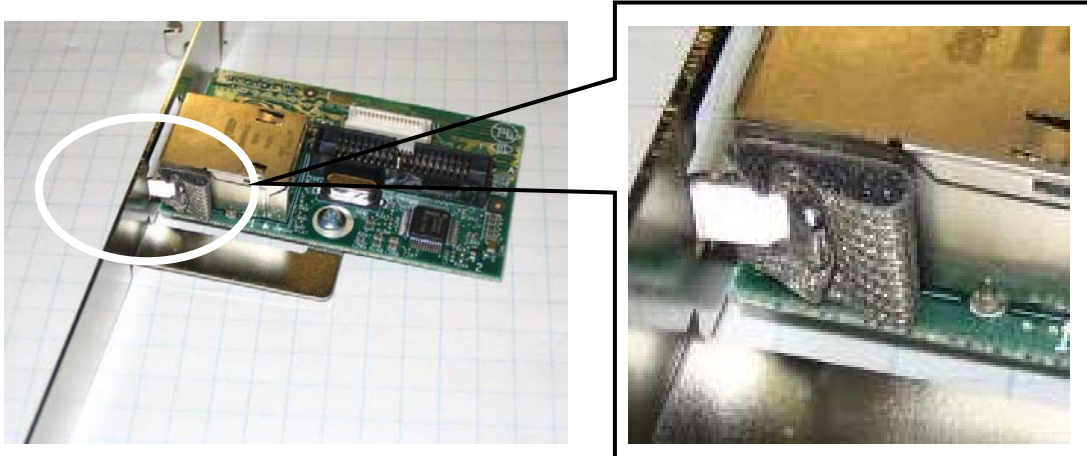

Figure 3 – Properly placing the EMI gasket
- 3- Place the EMI gasket between the ear of the PCI bracket and the RJ-45 connector on the NIC module. Fasten the NIC module to the bracket using the screws provided. See Figure 3.
IMPORTANT NOTE: Place the EMI gasket only as shown in Figure 3. DO NOT place the EMI gasket on the side of the RJ-45 near exposed components. Damage may occur if the EMI gasket is placed near exposed components.